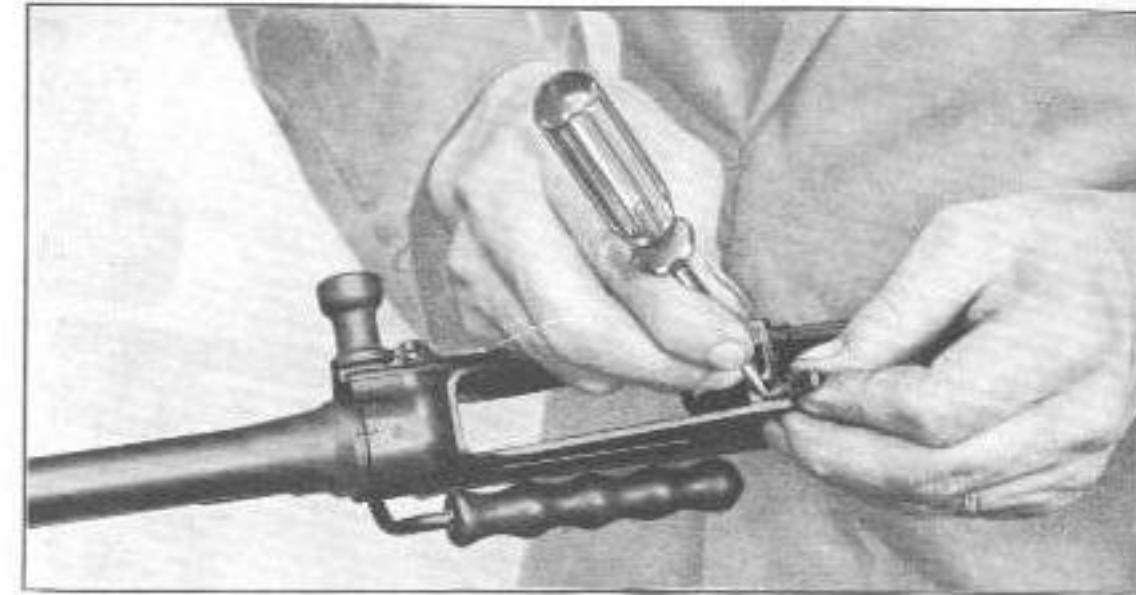

Fig. 83
a) **Magazine catch.** — Use the blade of a screwdriver to compress the magazine catch spring, at the same time pulling the magazine catch (fig. 83).